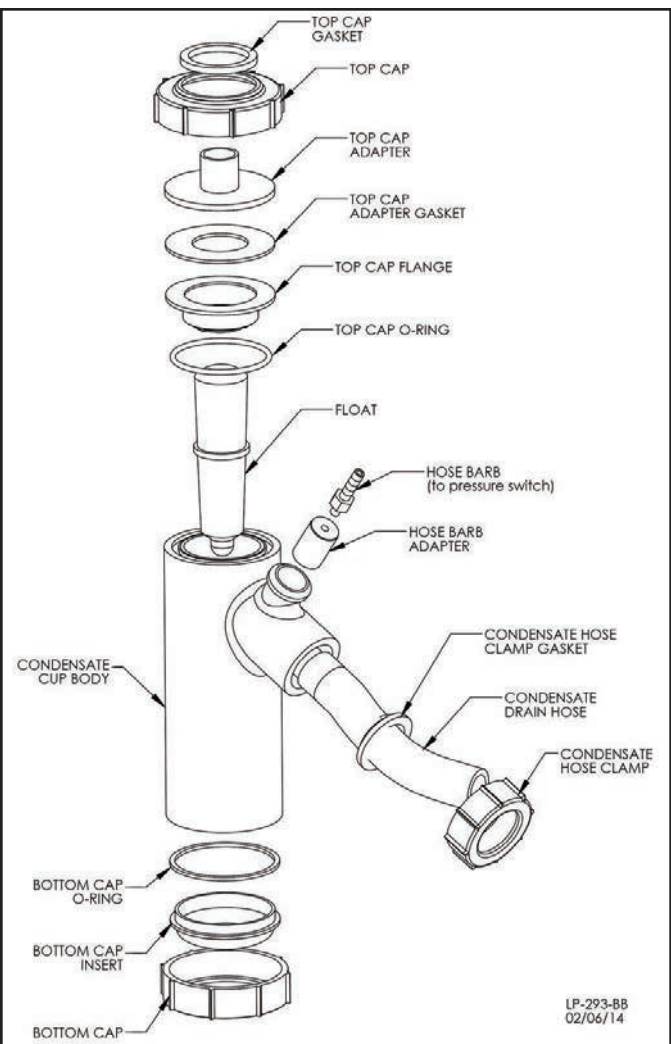

Figure 33 - Condensate Detail
- NOTE:** Ensure all parts shown in Figure 33, Condensate Detail, are installed with the condensate trap. If any parts are missing, **DO NOT** reinstall the trap. Replace the entire assembly.